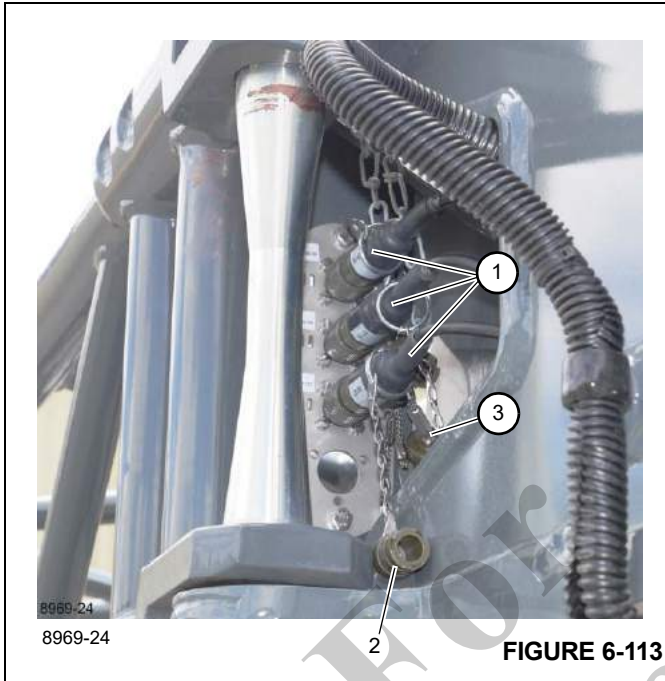

**FIGURE 6-112**
2. Connect the plugs (1), (Figure 6-112) to the sockets making sure the plug wire number corresponds to the socket number.